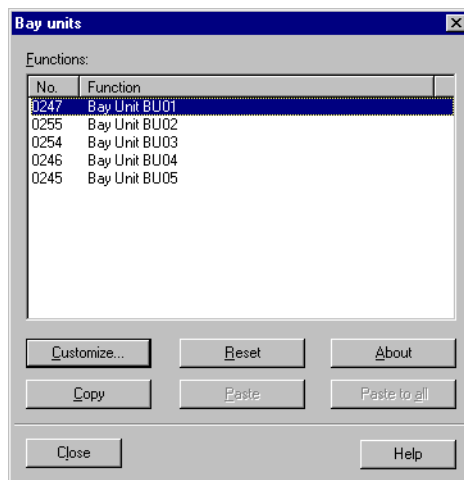

Figure 6-29 Bay units window – Example
- ☐ Double-click **Bay units** in the function selection. The Bay units window opens (Figure 6-29, page 245).
- ❑ Double-click **Bay units** in the function selection. The Bay units window opens (Figure 6-29, page 245).